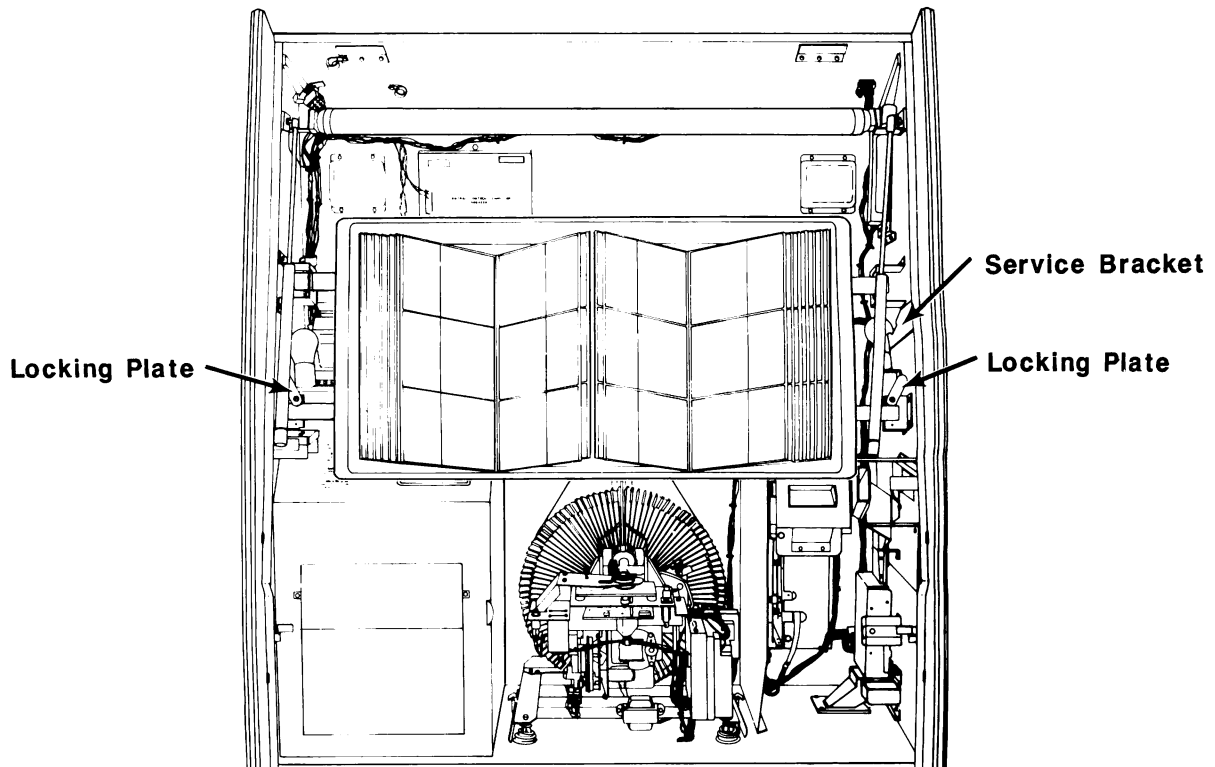

Figure 3-1. Lifting The Title Rack
2. Rotate the two locking plates (see figure 3-1) away from the title rack bar and lift the bottom of the title rack up and toward you with your left hand.